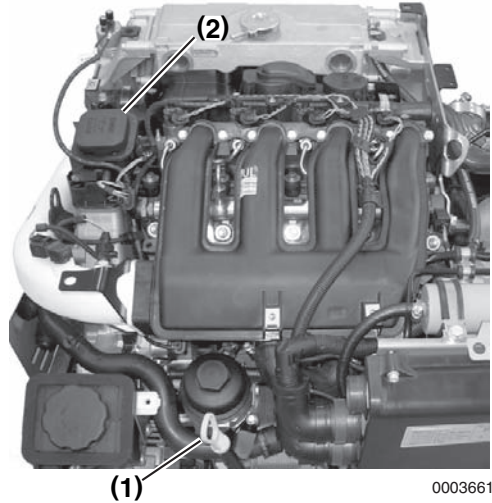

Figure 5
1. Remove the oil filler port cap (**Figure 5, (2)**) and pour engine oil into filler port. *See Engine Oil Specifications on page 43.*
2. Fill with oil to the upper limit on the dipstick (**Figure 5, (1)**). Insert the dipstick fully to check the level.